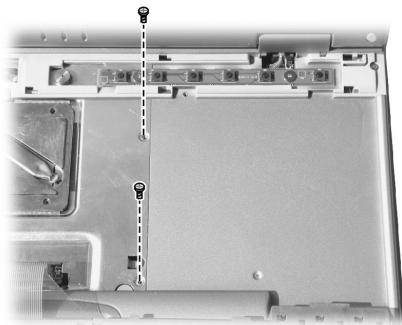

Figure 2-9
2. Remove two screws locking the CD/DVD-ROM drive. (Figure 2-9)